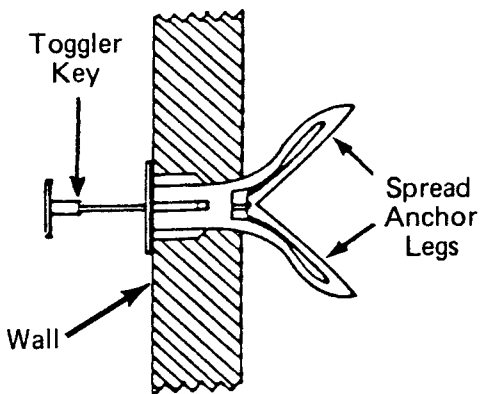

FIGURE 4—TOGGLER PIN
01.22 Insert a toggler key into the small hole in the neck of each fastener, as shown in Figure 4. This should cause the anchor legs to "pop" open. Remove the toggler key.